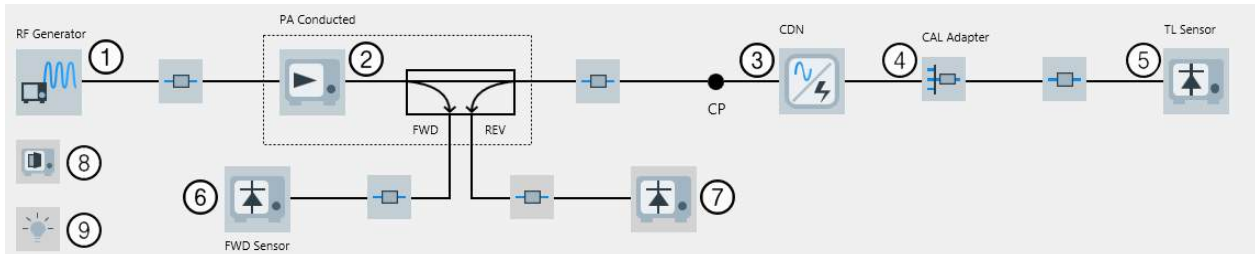

Figure 4-150: EMS hardware setup diagram (conducted) for CDN / EM Clamp in Calibration View
- The "Calibration View" (see Figure 4-150)